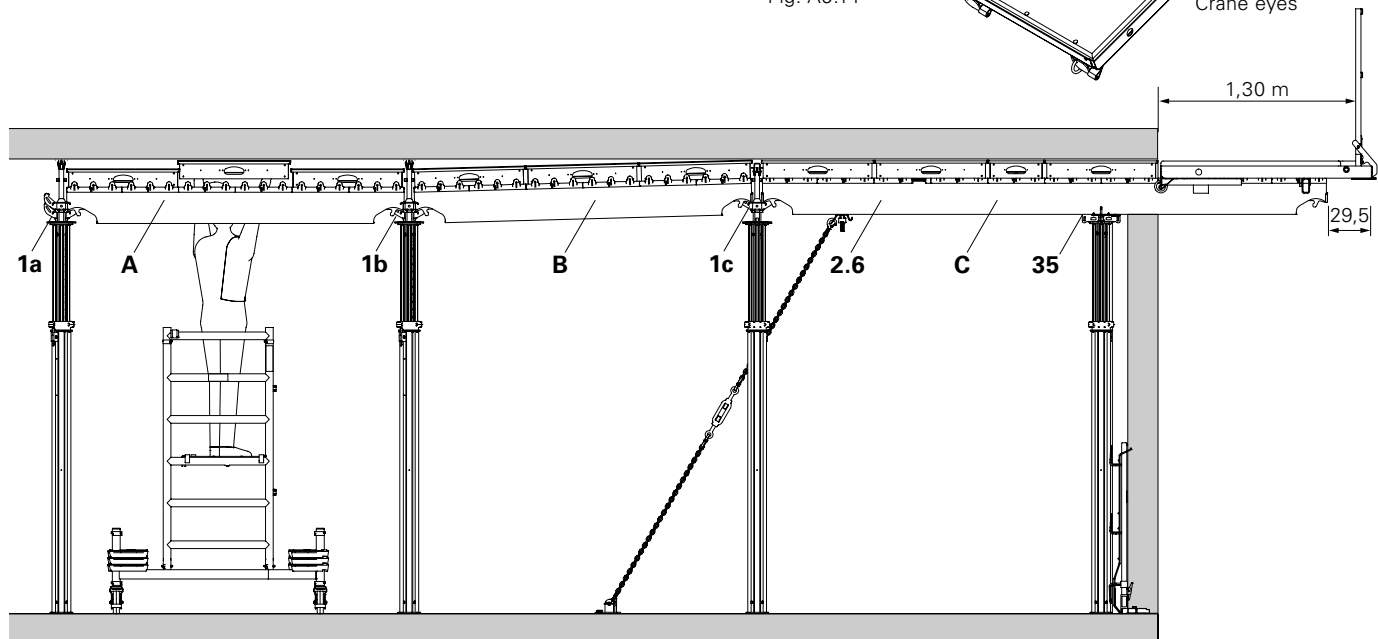

Fig. A9.15
4. Strike the panels and main beams in the last but one standard bay (A). (Fig. A9.15). Do not strike bays B + C yet!